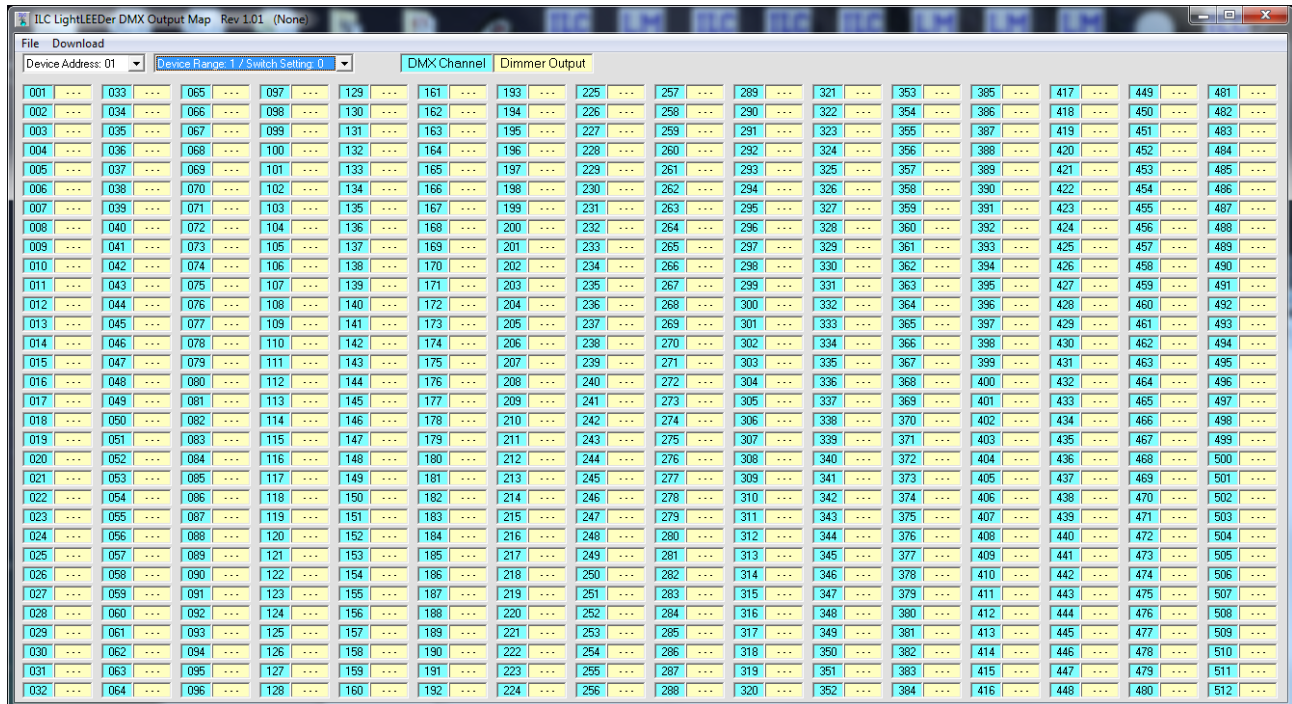

Figure 1 Opening Software Screen
1. From the opening screen as shown in Figure 1, select the device address of the DMX Output module. This should match the address switches on the module.